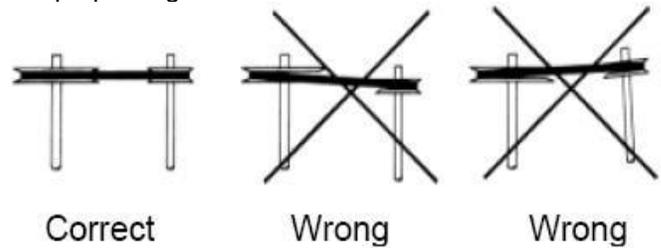

Fig. 2: Pulley Alignment
7. With the motor platform in its highest position install the V belt within the sheave grooves. Adjust the sheave on the blower shaft to ensure proper pulley alignment (see figure 2) and secure in place. A straight edge across the face of the driven pulley should be parallel to the belt once proper alignment has been achieved.